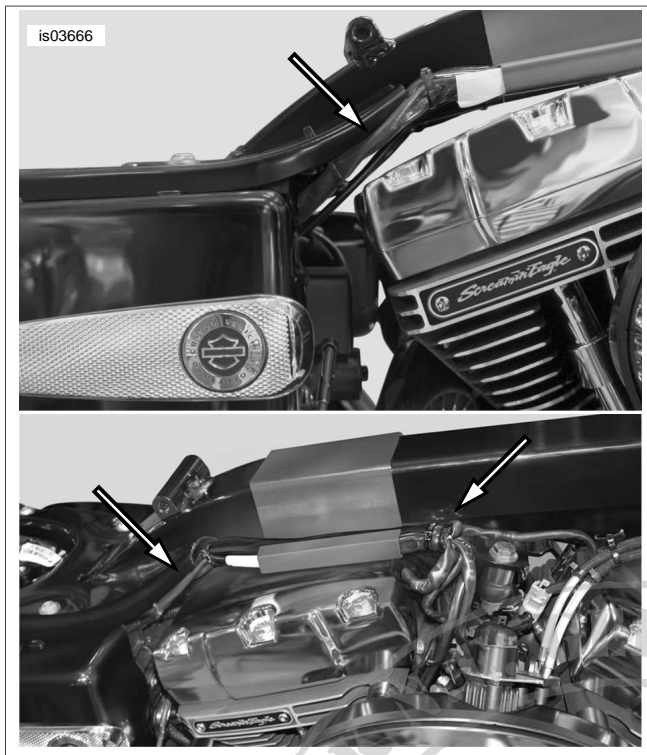

Figure 26. Cable Straps and Wire Routing (Dyna)
- See Figure 26. Reinstall cable straps provided in kit in original locations and as otherwise necessary, ensure: